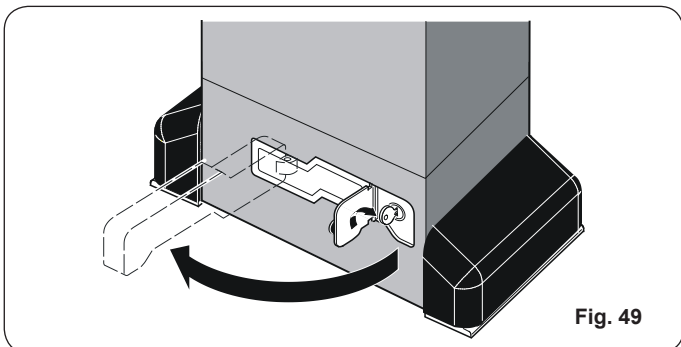

Fig. 49
2. Turn the key clockwise and pull the release lever as shown in Fig. 49.